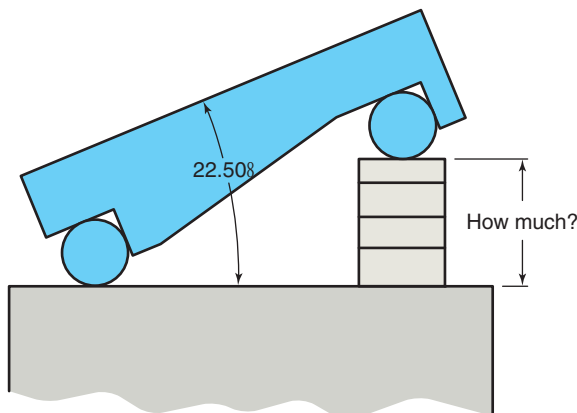

Figure 7-50 What stack height produces 22.5° on this 10-in. sine bar?
Here are two examples. Please follow them on your calculator (Figs. 7-50 and 7-51).
7.4.4A Setting Up an Angle In this case, we know the angle and want to set up a perfect model; for example, to hold a part up at 22.58° relative to the floor of a milling machine vise. This setup will cut the top off a part at 22.58°. Once the part is tilted at the right angle, then clamped in the vise, the sine bar would probably be removed (Fig. 7-50).